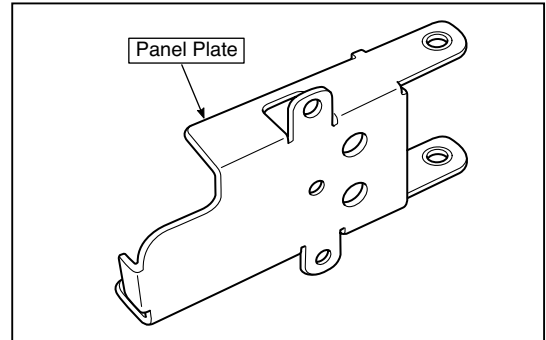

Fig.27
2. Remove the Panel Plate shown in the figure 27.